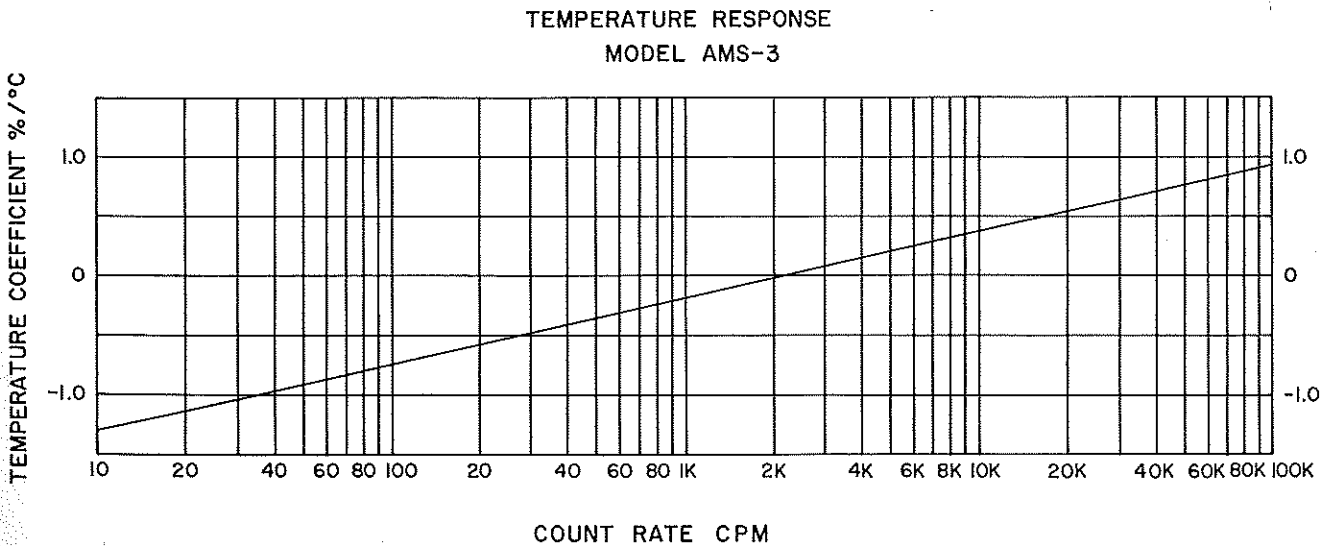

Figure 1-2. Temperature Characteristics, AMS-3
14. Temperature: The instrument is operational from 20°F to 120°F (-7°C to 49°C). See Figure 1-2.